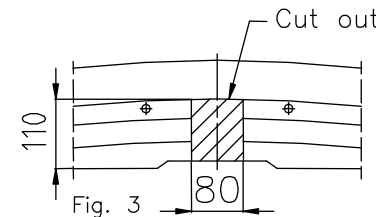

Fig. 3
- To the left and right chassis member slip sleeve $L=85$ mm (pos. 10), see fig.
- To drilled holes put sleeves $L=51,5$ mm (pos. 9).
- To the inside of chassis members and rear part of the car put brackets (pos. 4 and 5) and fix using bolts M10x120mm (pos. 11) through sleeves and bolts M10x35mm (pos. 13) through nuts on the jib (pos. 8).
- Put the main bar of the towing hitch (pos. 1) on protruding elements (bolts) of removed metal reinforcement and fix using original nuts M8 (from reinforcement) and using M10x90mm (pos. 12) - see fig.
- Elements of the towing hitch (pos. 6 and 7) fix loosely to the original tow handle, and next through holes (pos. A) of ball brackets fix using bolts M10x30mm (pos. 14).
- Fix body of the automat and place tow-ball according to supplied instruction. Note! Remember to place socket plate (pos. 3) as shown on the drawing 1.
- Assemble a cover plate and a bumper (cut out its fragment – see fig. 3 and 4).